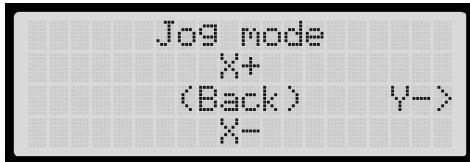

Fig. 4.2
**Jog Mode.** This entry allows you to change the position of the build platform and the extruders. [Fig. 4.2] Use the left and right arrows to select the X, Y, or Z- axis, the up and down arrows to move your extruders or build platform along the chosen axis, and the center button to exit Jog Mode. Jogging the Z-axis will move your platform up and down, and jogging the X and Y-axes will move your extruder right and left and backwards and forwards, respectively.